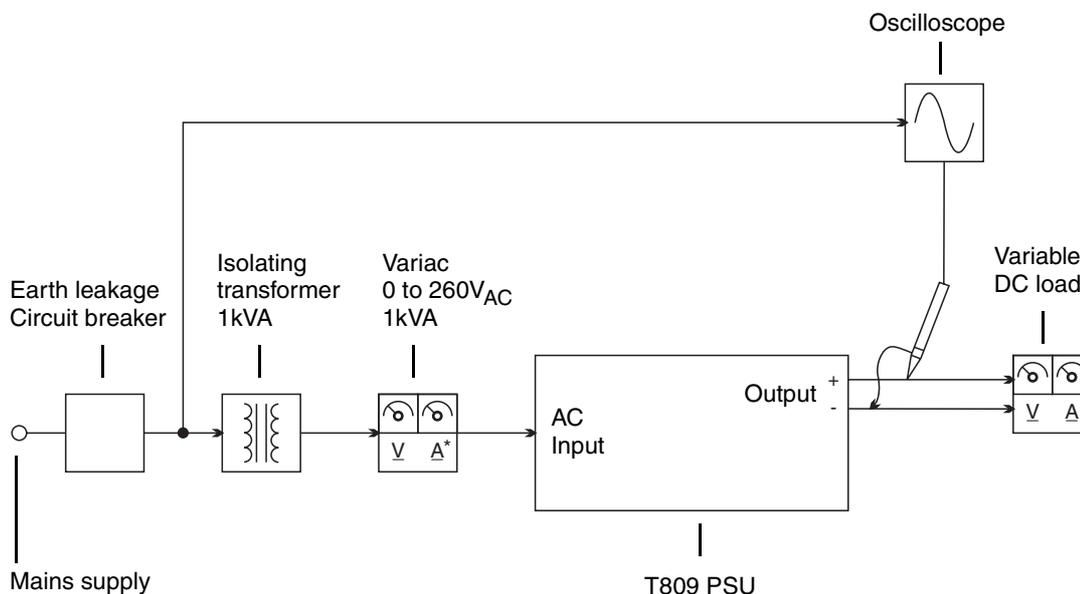

Figure 4.1 Test equipment setup
- 2 Set up the test equipment as shown in Figure 4.1 above.
- 2 Set up the test equipment as shown in Figure 4.1.